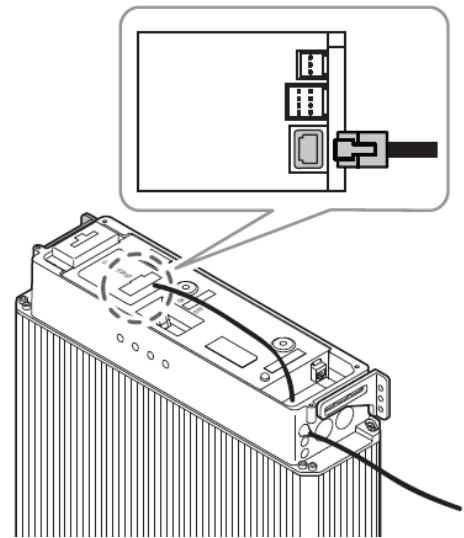

Figure 6 Insert RJ45 plug into battery port
Step 1 Insert the RJ45 plug into the battery port until it makes a clicking sound (Figure 6).